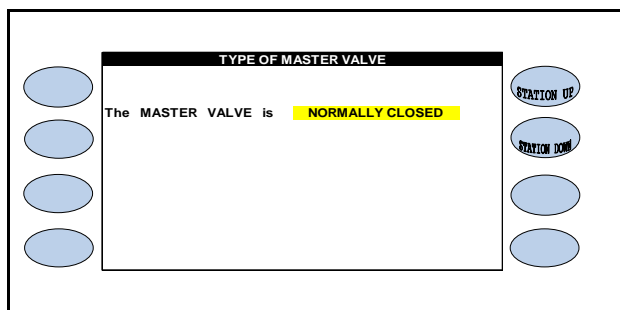

Figure 4.9
5.  Press the **BACK** key to return to the FLOW METER, MASTER VALVE, & PUMP SETUP screen (Figure 4.9).
The TYPE OF MASTER VALVE screen is displayed (Figure 4.9).
- Press the **BACK** key to return to the FLOW METER, MASTER VALVE, & PUMP screen (See figure 4.9).